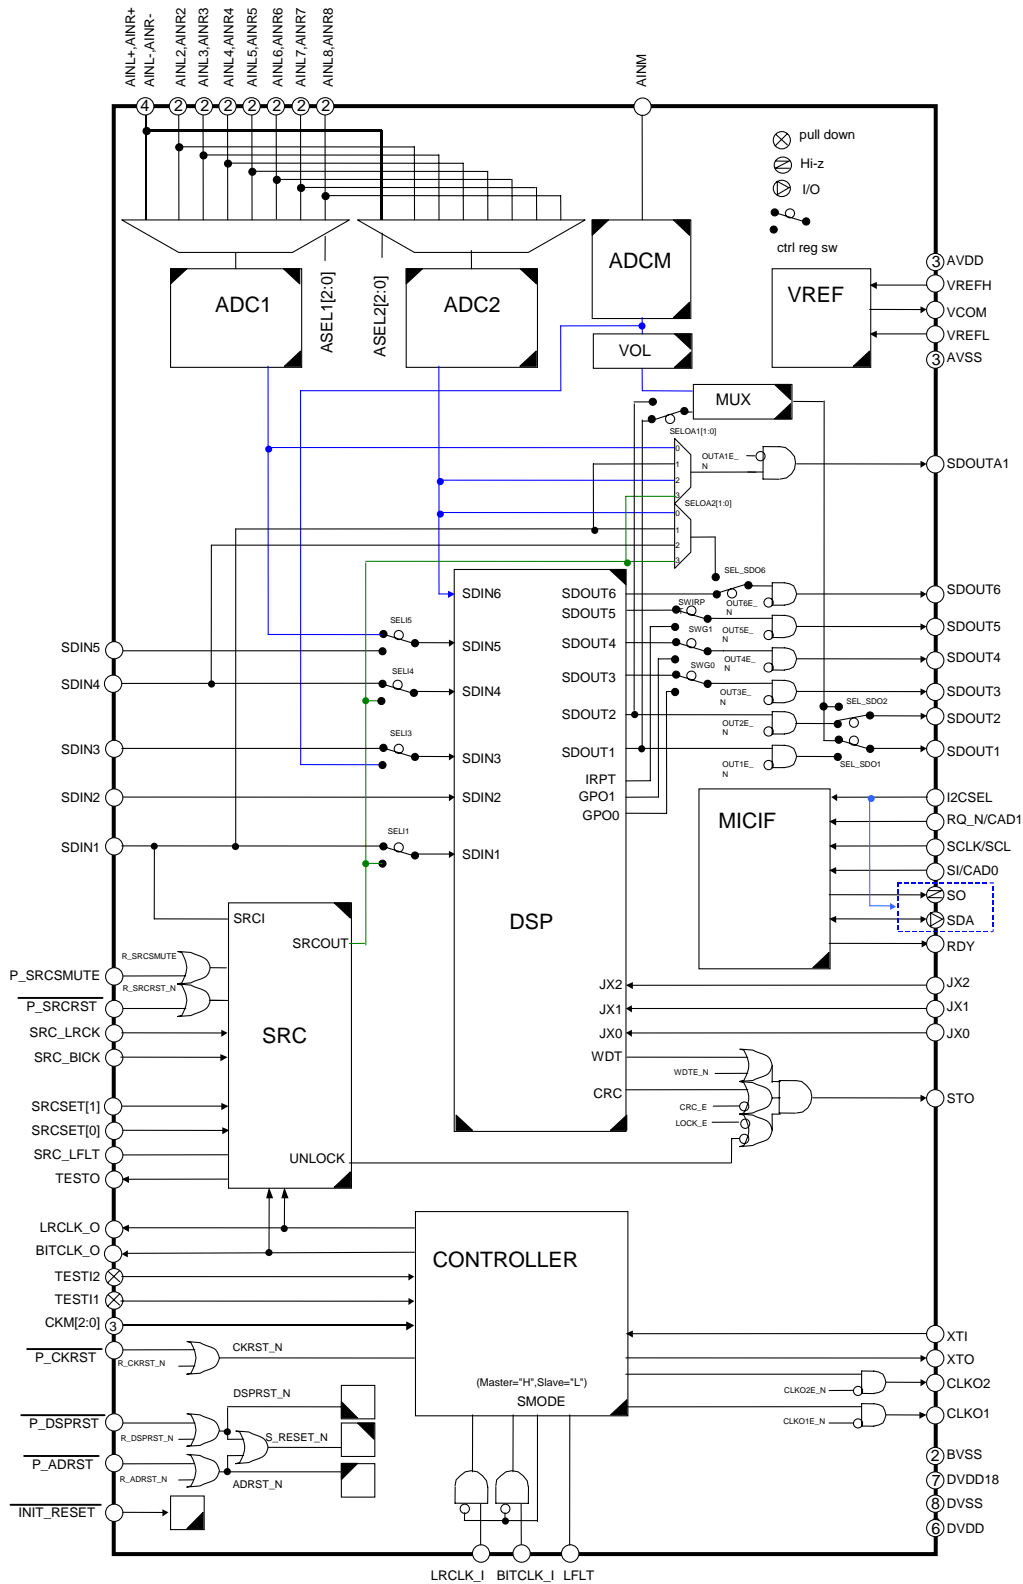

Figure 1. Whole Block Diagram
* Figure 1 shows a simplified diagram of the AK7780, which isn't the perfect same as the actual circuit diagram. Each describes the relationship of reset control and target reset blocks.